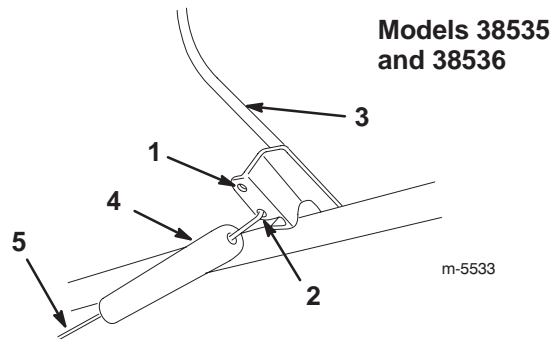
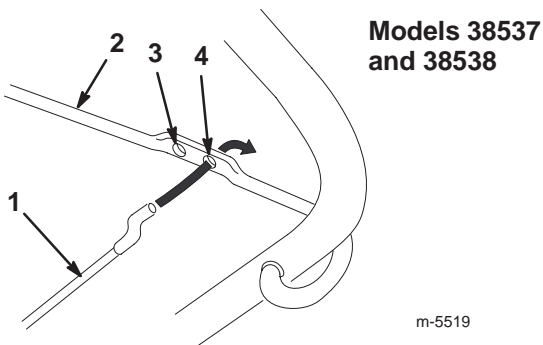

Figure 7
Figure 8
4. Insert the loose end of the control cable into the bottom hole in the control bar. Refer to Fig. 7 (Models 38535 and 38536) or Fig. 8 (Models 38537 and 38538).